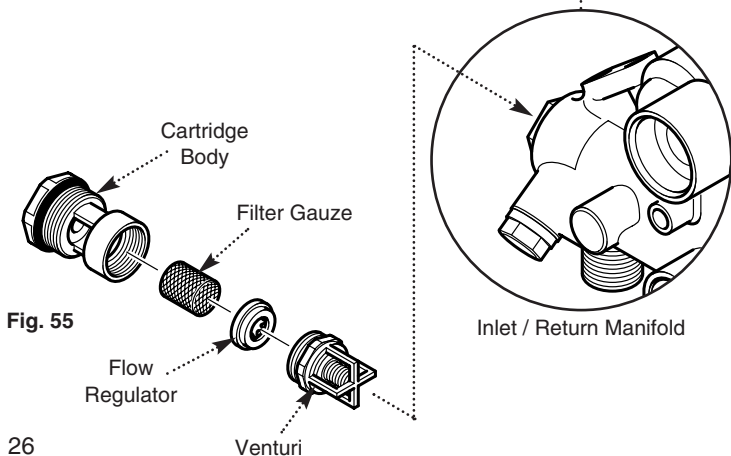

Fig. 55
22. Dismantle the cartridge and carefully remove the flow regulator and filter gauze. Rinse them thoroughly in clean water and reassemble in reverse order (Fig. 55).